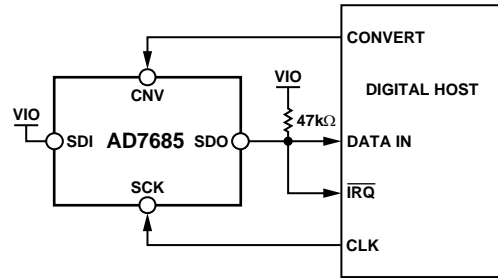
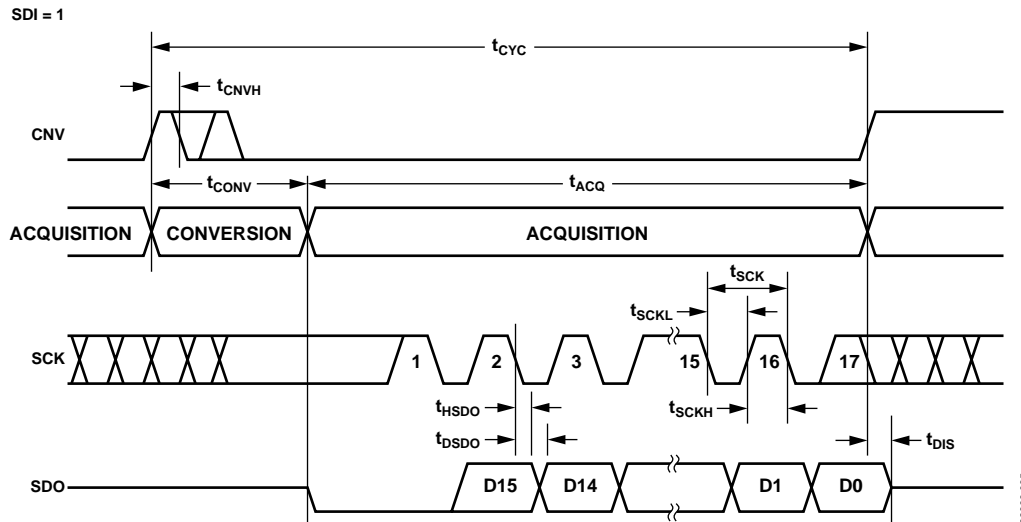
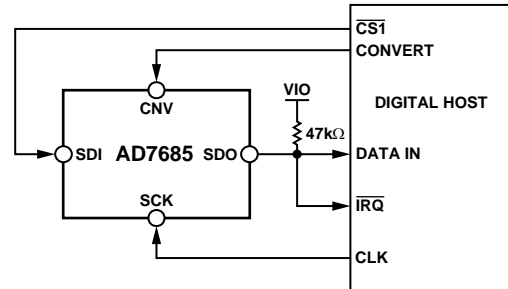
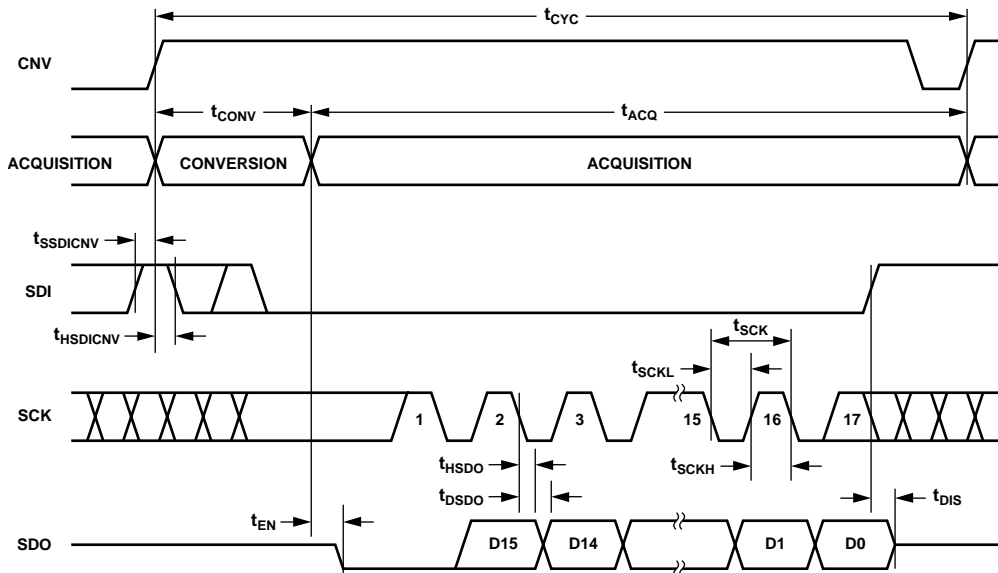

Figure 35.  $\overline{CS}$  Mode 3-Wire with BUSY Indicator Connection Diagram (SDI High)
Figure 36.  $\overline{CS}$  Mode 3-Wire with BUSY Indicator Serial Interface Timing (SDI High)
Figure 39.  $\overline{CS}$  Mode 4-Wire with BUSY Indicator Connection Diagram
Figure 40.  $\overline{CS}$  Mode 4-Wire with BUSY Indicator Serial Interface Timing
- In the  $\overline{\text{CS}}$  mode, if CNV or SDI is low when the ADC conversion ends (Figure 36 and Figure 40).
The connection diagram is shown in Figure 35 and the corresponding timing is given in Figure 36.
The connection diagram is shown in Figure 39 and the corresponding timing is given in Figure 40.